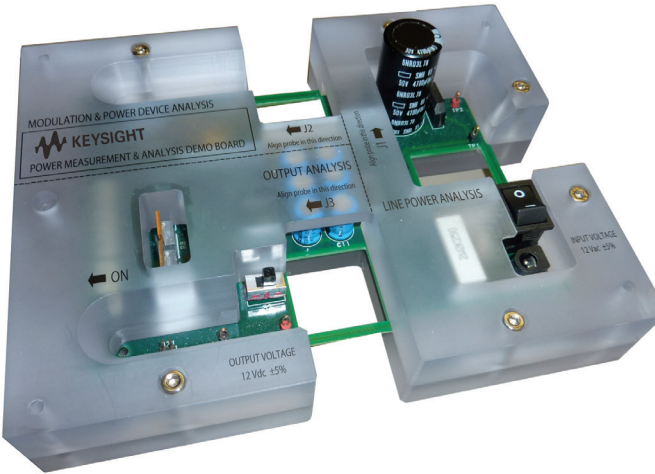

Figure 1. The Keysight Technologies, Inc. switch mode power supply measurements training kit.
- Your switch mode power supply (SMPS) or Keysight’s SMPS measurements training kit (Figure 1)